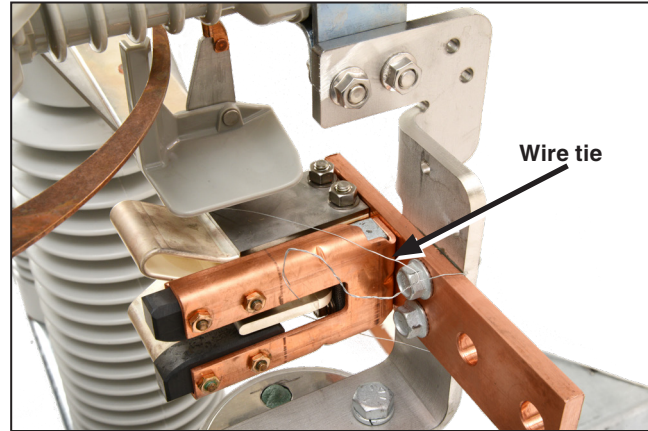

Figure 11. Tying switch blade to main contacts.
**STEP 9.** To minimize time-consuming final adjustments, make sure that the switch is fully closed. Tie the switch blades to their stationary main contact assemblies. See Figure 11.